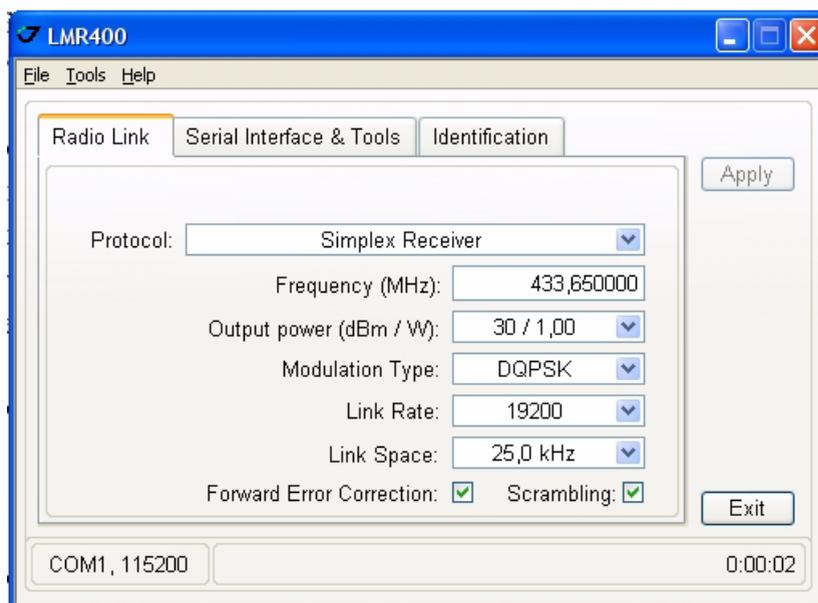

Figure 3-3. Radio Link tab
1. On the *Radio Link* tab, set the following parameters (Table 3-1) and click *Apply* (Figure 3-3 on page 45).